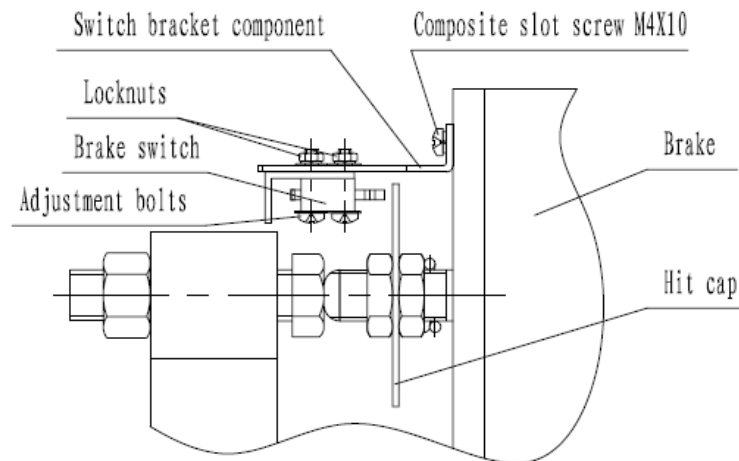

Figure 15 Brake Switch mounting
3. Loosen the Composite slot screw M4x10 using a Phillips head screw driver, then remove the broken switch with bracket. See Figure 15.